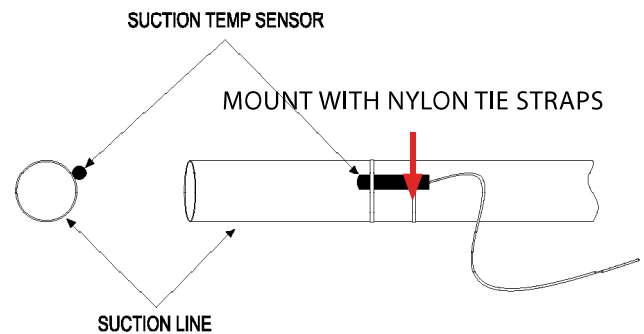

Figure 7
- b. Suction Temp Sensor (Figure 7) must be removed from the suction line prior to brazing. The sensor must be reinstalled on the suction line (10 or 2 o'clock position) after brazing is completed and the tubing has been allowed to cool down. Use nylon tie straps to secure the Suction Temp thermistor as shown in Figure 7. After suction temp sensor is installed, suction line should be insulated and the sensor should be covered with the insulation.